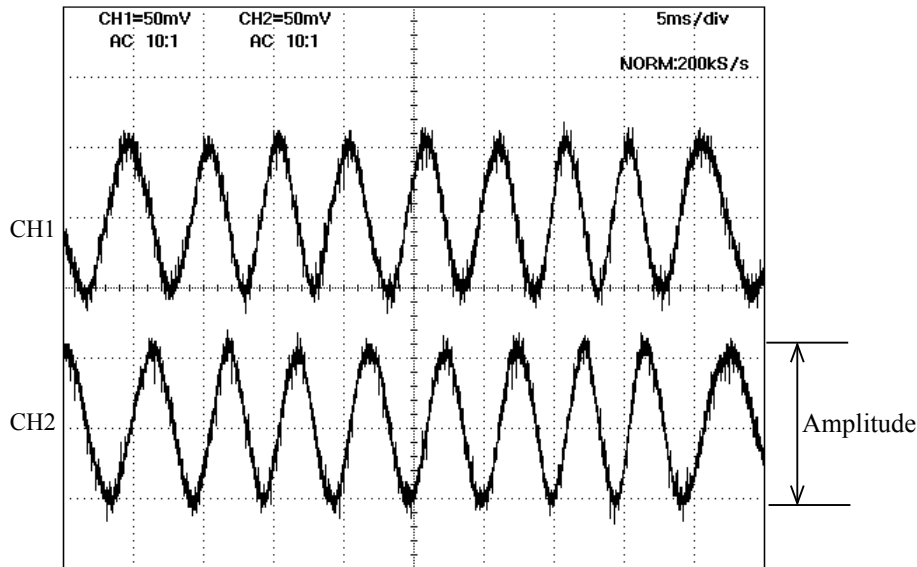

Fig. 1
③ In case large waveform-noise (as shown in Fig. 1) is detected, use the FILTER function.